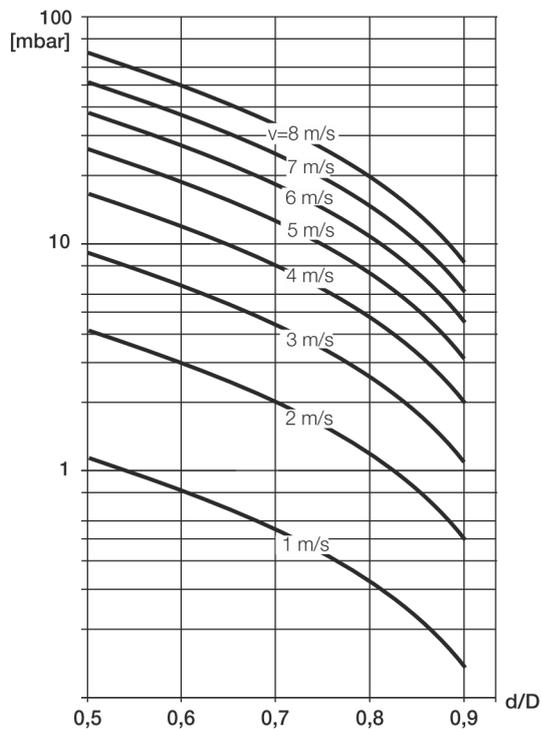

Figure 35: Flow rate nomogram for flange transition piece at $\alpha/2 = 8^\circ$
2. Determine the flow velocity based on the flow rate nomogram (Figure 35).
3. Read the pressure loss on the Y-axis in Figure 35.